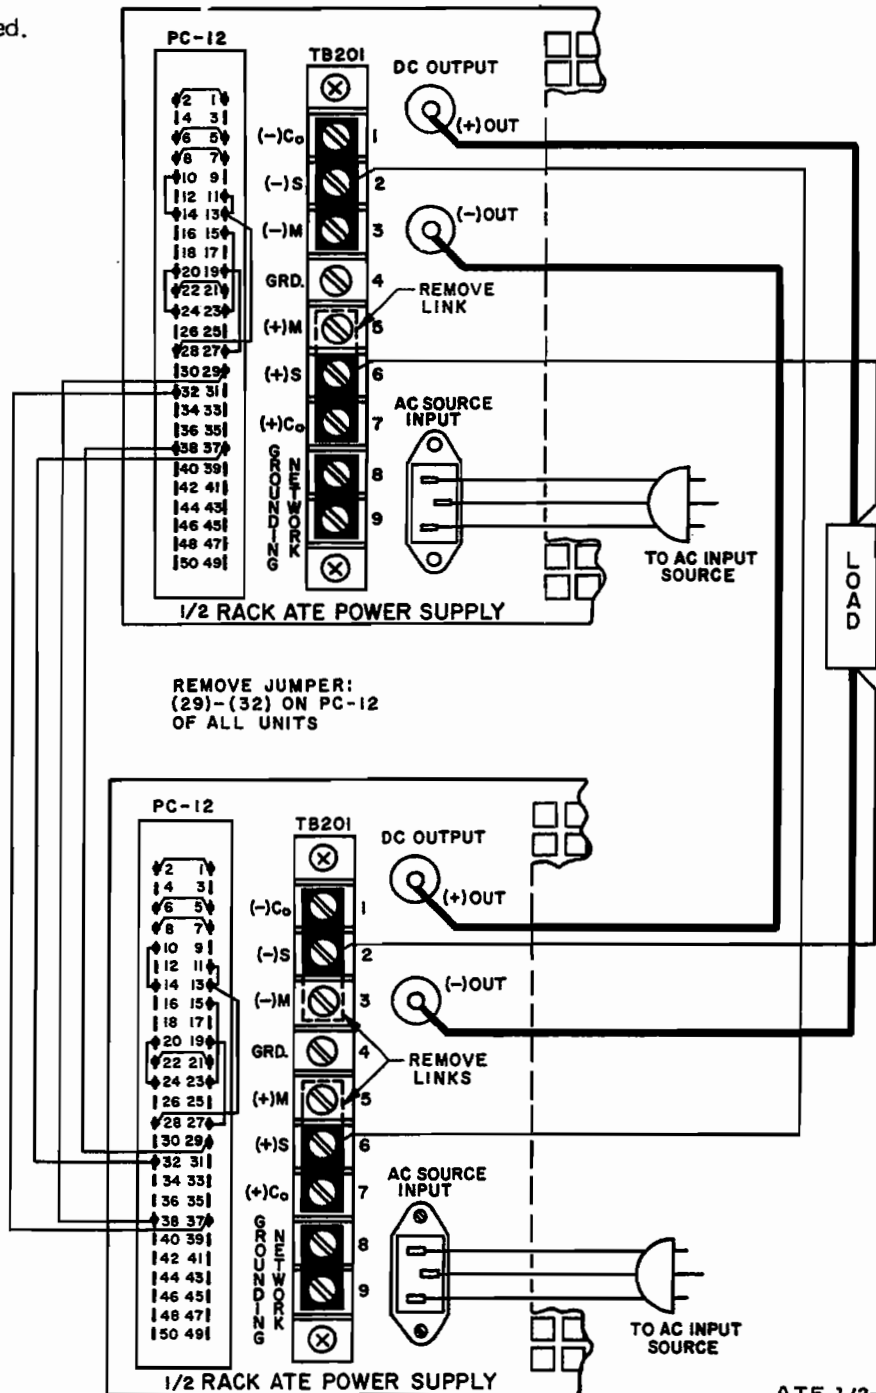

FIG. 3-20 AUTOMATIC SERIES CONNECTION
- 3) Make all load connections as shown in the diagram (refer to FIG. 3-20).